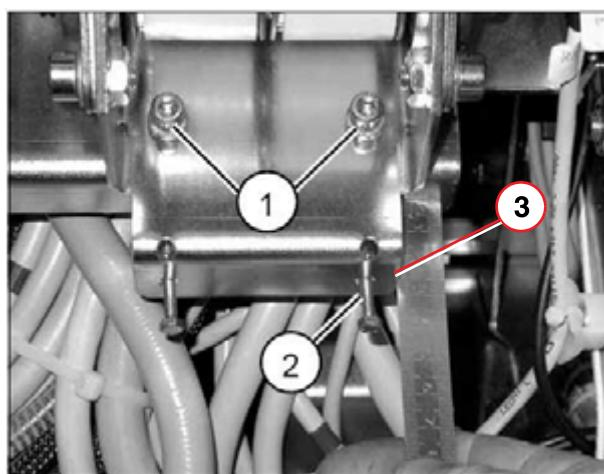

Fig. 19: Adjusting belt tension
- Loosen the 4 fastening screws ((1/Fig. 19 / p. 53)) (two screws are not visible) and set a value of 28 mm ((2/Fig. 19 / p. 53)) with the two adjustment screws ((3/Fig. 19 / p. 53)).